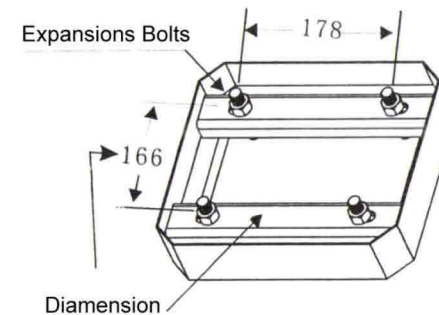

Figure 3 Press plate of case
7.1.1 Please select the correct type of barrier gate according to the specifications of the pace,and then fix the barrier cabinet with expansion bolts(refer to Figure 3).